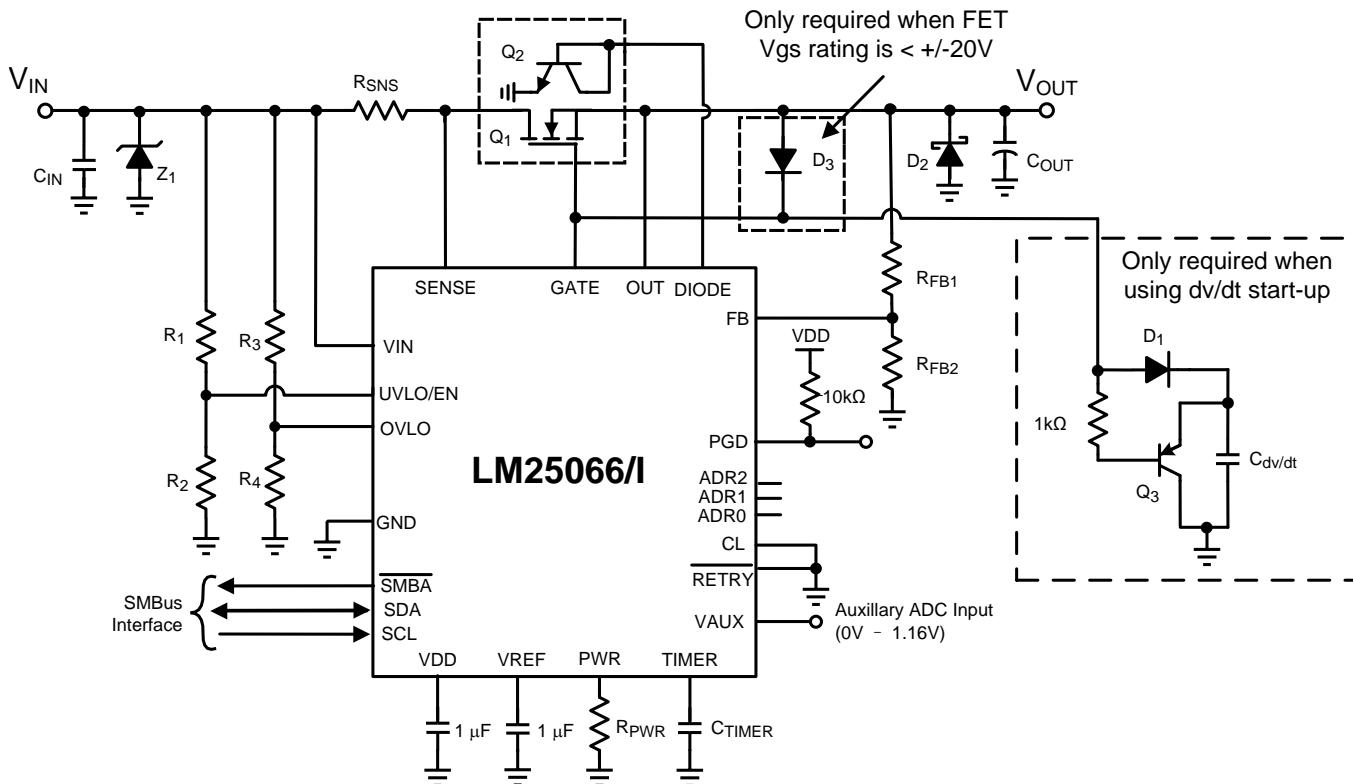

Figure 38. Typical Application Circuit
- Otherwise, a diode (D3 in Figure 38) can be used to protect MOSFETs with a  $\pm 12$  V  $V_{GS}$  rating.